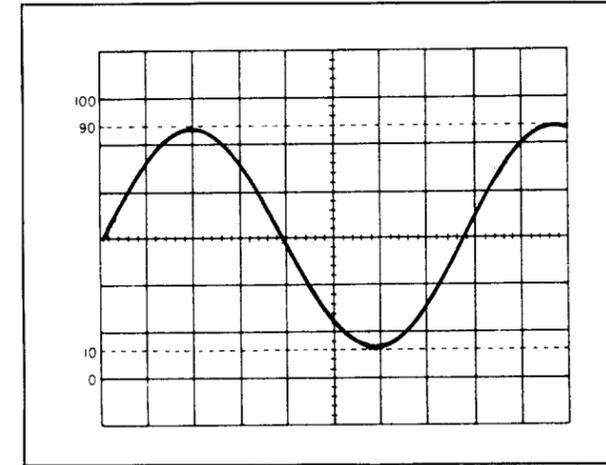

Fig. 3. Adjusting Trigger Point.
- Adjust the TRIG LEVEL control so that the waveform crosses the center horizontal graduation at the leftmost graduation (as shown in Fig. 3).